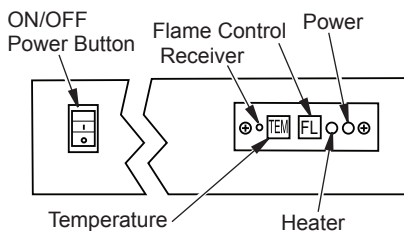

Figure 4 - Controls For Electric Fireplace
Controls (see Figure 4) are located behind the top louver panel and can be accessed by pulling louver panel from the top, forward and down.
2. **Main ON/OFF Power Switch and LED:** This switch is located on the far left side opposite the control panel. The power LED will light up when the unit is on (see Figure 4). When unit is on, the default settings for the fireplace is low background lighting and high ember bed and flame and the heater is off.
3. **Temperature Control Button and LED:** This button is located to the right of the Remote Control Receiver (see Figure 4). The LED is located to the right of the Flame Button. Push button to cycle through settings. When this button is pushed the LED will come on. When heater is on heat will emit through vents located in the middle of the top louver panel.